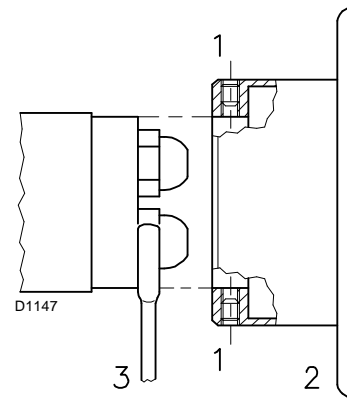

Fig. 14
- fitting the wrench through the central hole in the flame stability disk or loosen screws 1)(Fig. 14);
- remove disk 2)(Fig. 14) and replace the nozzles using the wrench 3).